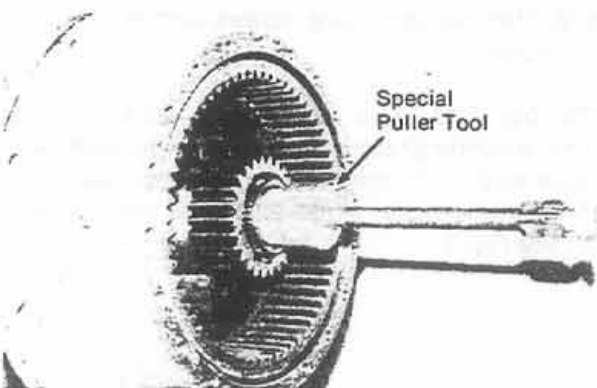

Figure 5:
Step 4. Remove the inner planet carrier with the special puller (P/N 58-011) and puller bolt. A slide hammer may be used to pull assembly (see Fig. 5).